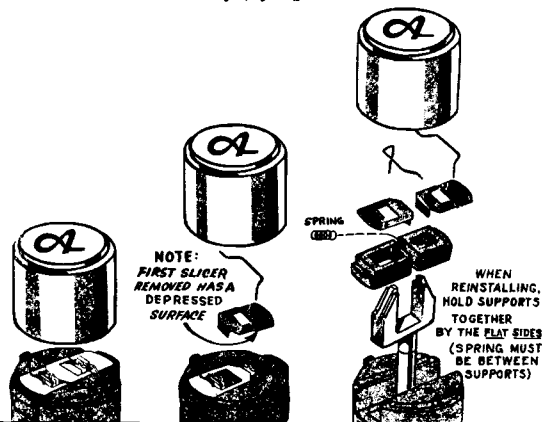

Figure 9. Disassembly of 45 RPM Centerpost.
(See Figure 9)
1. Remove screws (12) from underside of centerpost and lift up the centerpost cap (3). See figure 9. **CAUTION:** When the centerpost cap (3) is off, use extra care to keep from accidentally pushing up on the push-off adjusting shaft (15). If this shaft is pushed up, the slicer return springs (4) and slicers may fly off and be lost.